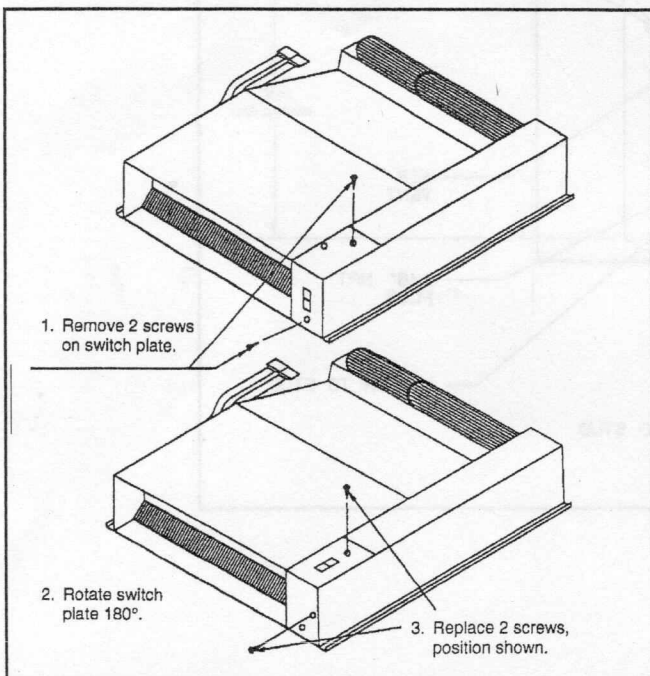

Figure 1. Changing the switch location
1. Change switch location. See Fig. 1.